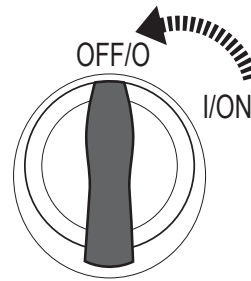

Fig. 36
- > Turn the on/off switch (7) anticlockwise to its off position **"OFF/O"** to switch the product off (Fig. 36).